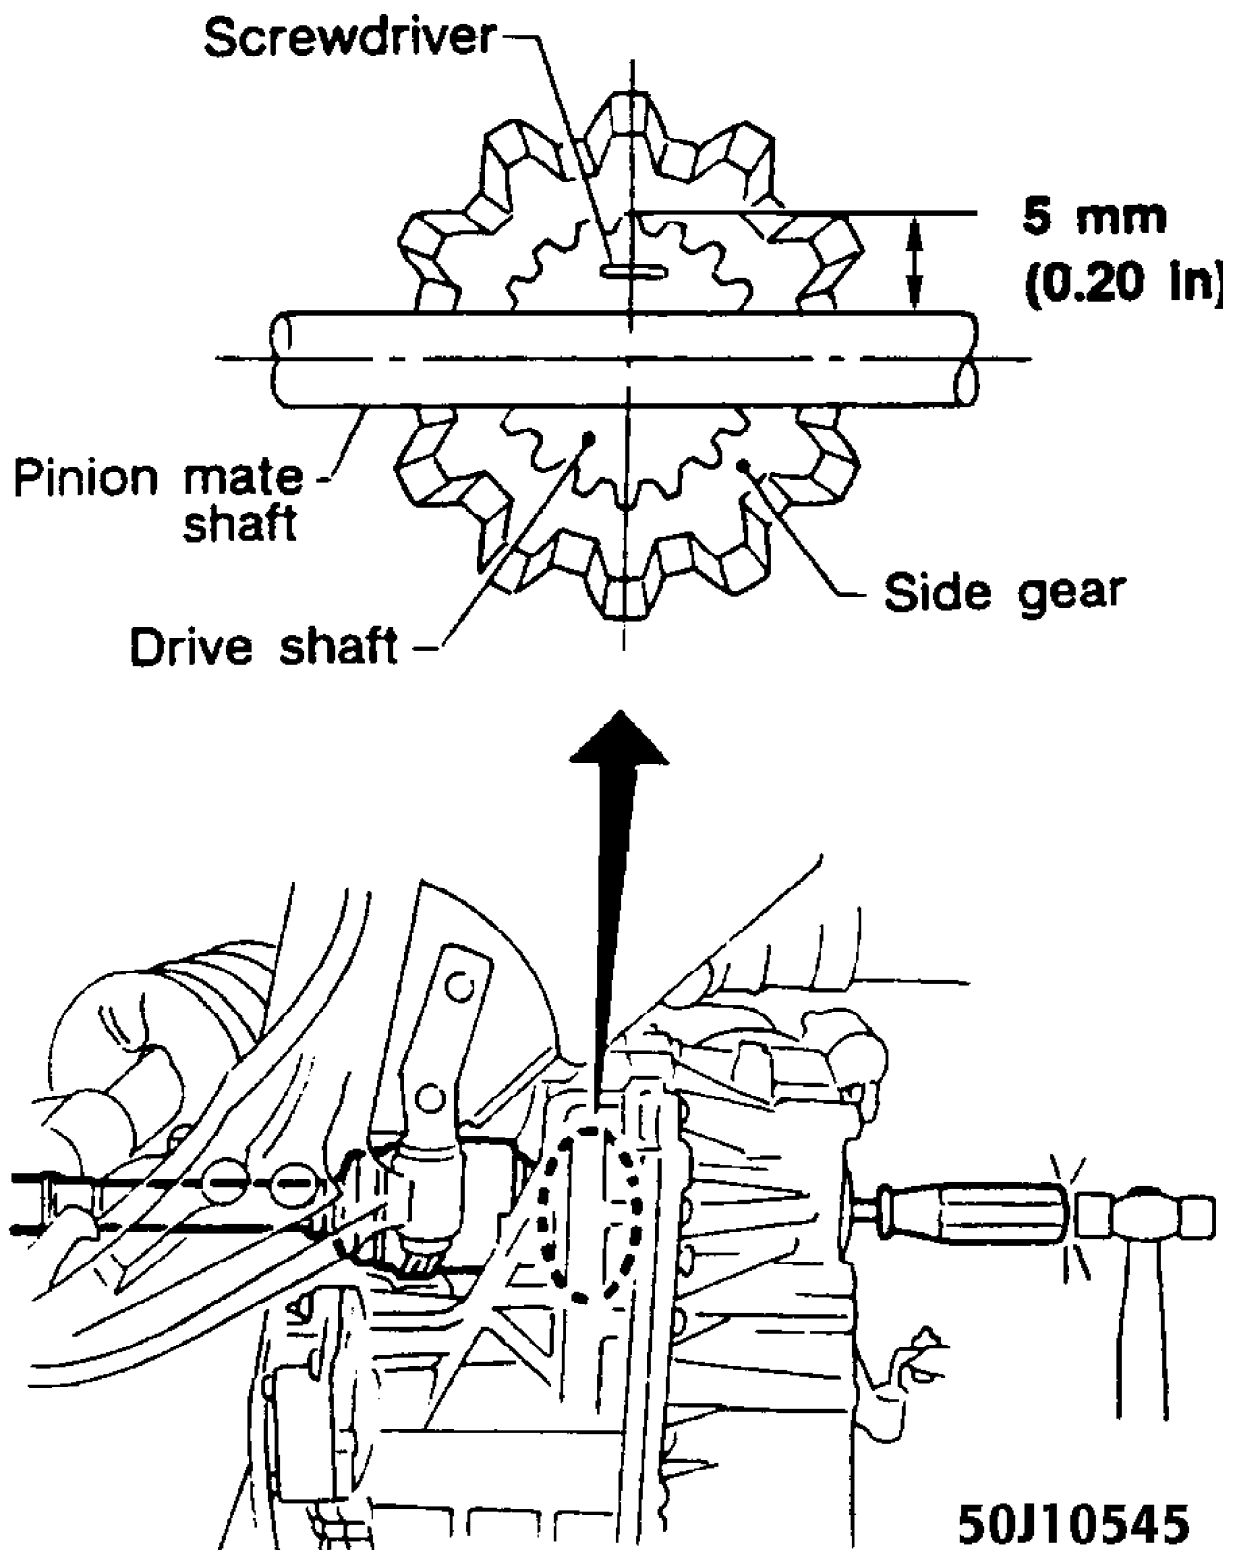

Fig. 2: Removing Axle Shaft (A/T Left Shaft)
3) On all models, pry right axle shaft from transaxle using screwdriver. See Fig. 1. On M/T models, pry left axle shaft from transaxle using screwdriver. On A/T models, insert screwdriver through right axle shaft hole in differential, and drive out left axle shaft. See Fig. 2.